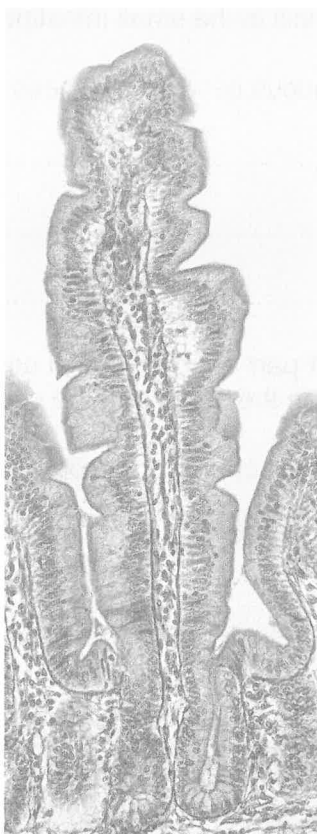
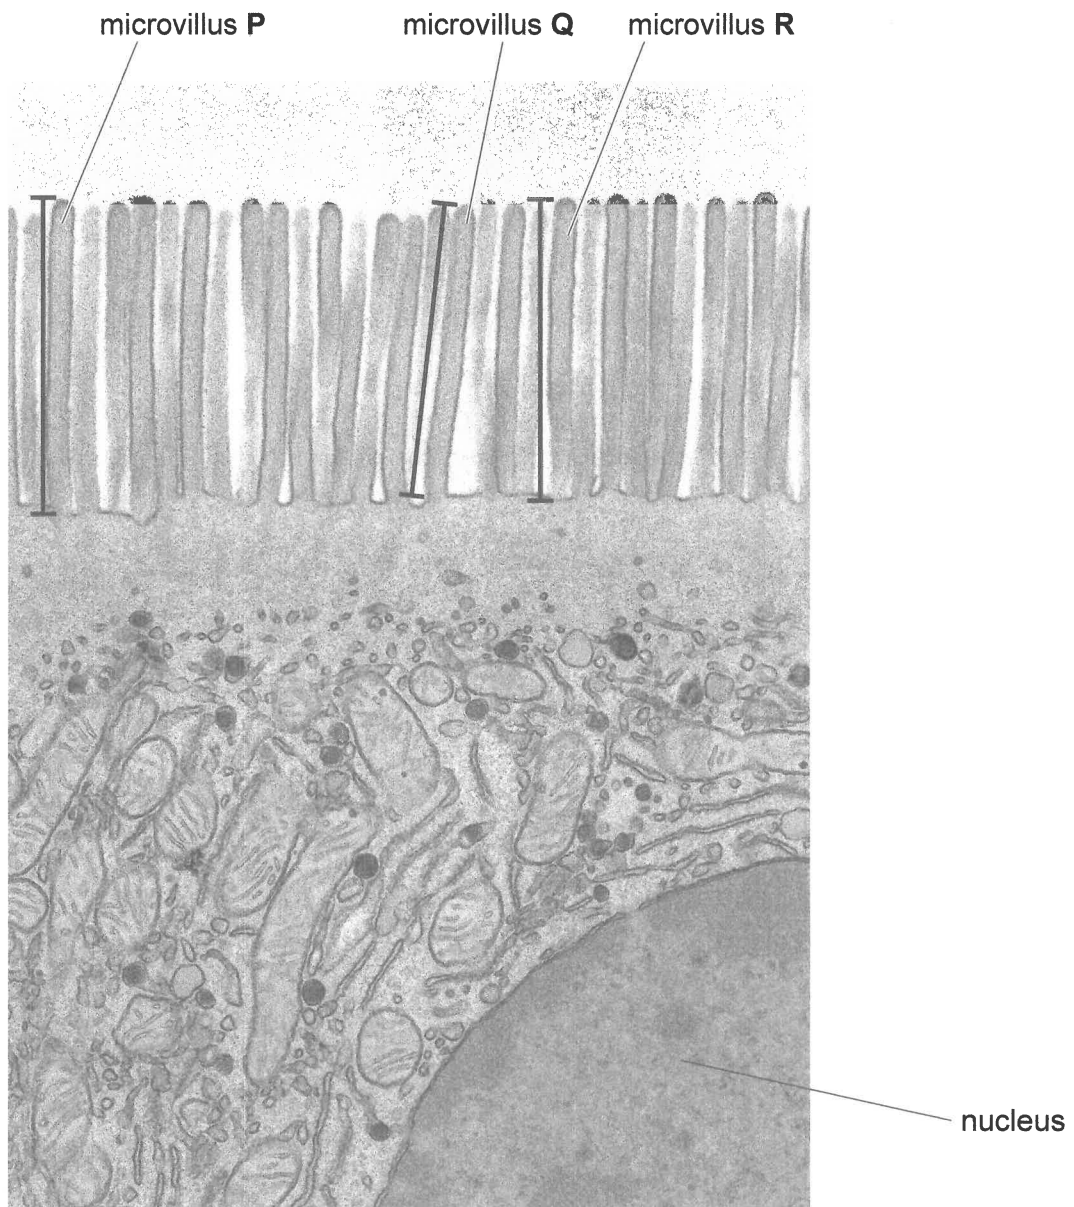

**Fig. 2.1**
Fig. 2.4
Fig. 2.1 is a drawing of the alimentary canal of a mouse, *Mus musculus*. The dashed line indicates that there are more loops of the small intestine than drawn here.
(c) Fig. 2.4 is an enlarged view of part of an epithelial cell from the lining of a villus in the small intestine. Microvilli are visible on the surface of the cell.
- (i) Measure **and** record the length in millimetres of the three microvilli in Fig. 2.4 labelled **P**, **Q** and **R**.
- (iii) The magnification of the image in Fig. 2.4 is  $\times 20\,000$ .
The mean width of the three microvilli identified in Fig. 2.4 is 3 mm.
Using **only** the information visible in Fig. 2.1, Fig. 2.2, Fig. 2.3 and Fig. 2.4, explain how **other** structural features of the small intestine are adaptations for absorption.